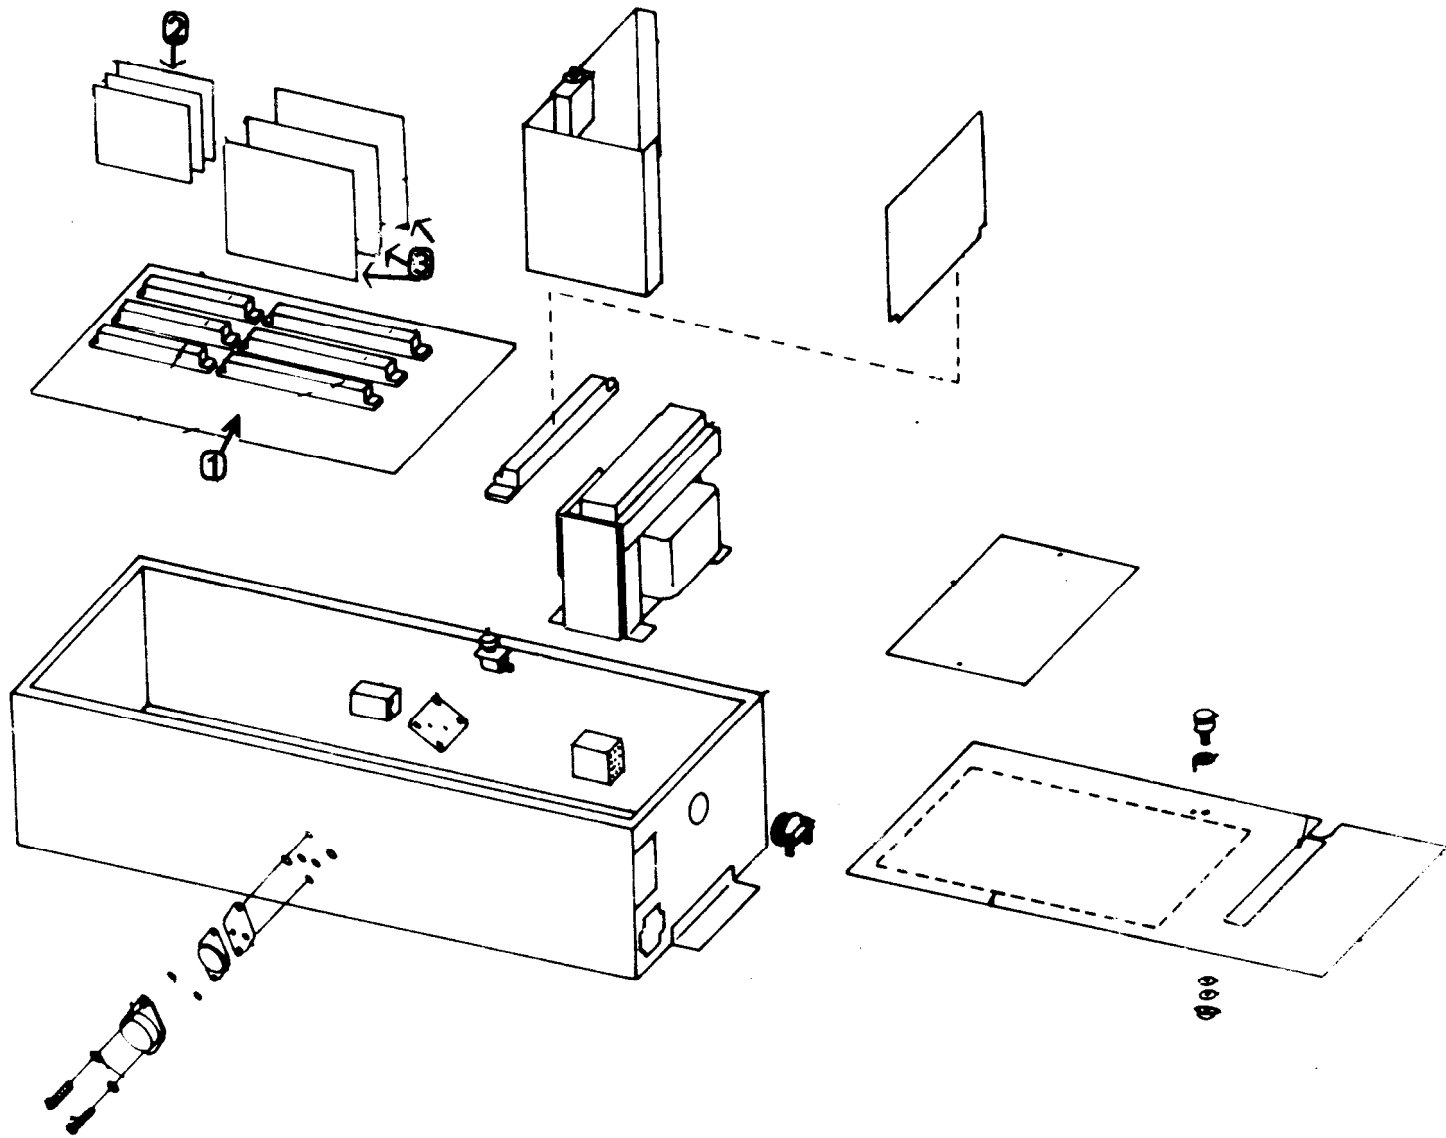

FIGURE 6
- a. The 26Vac vend signal is used to trigger an electronic switch (opto isolator) that outputs 12VDC as the vend signal. This takes place on the control board (mother board), (item 1, figure 6 & 7).
- b. The 12VDC vend signal is fed to the hopper control cards, (custom I.C.), (item 3, figure 6 & 7).